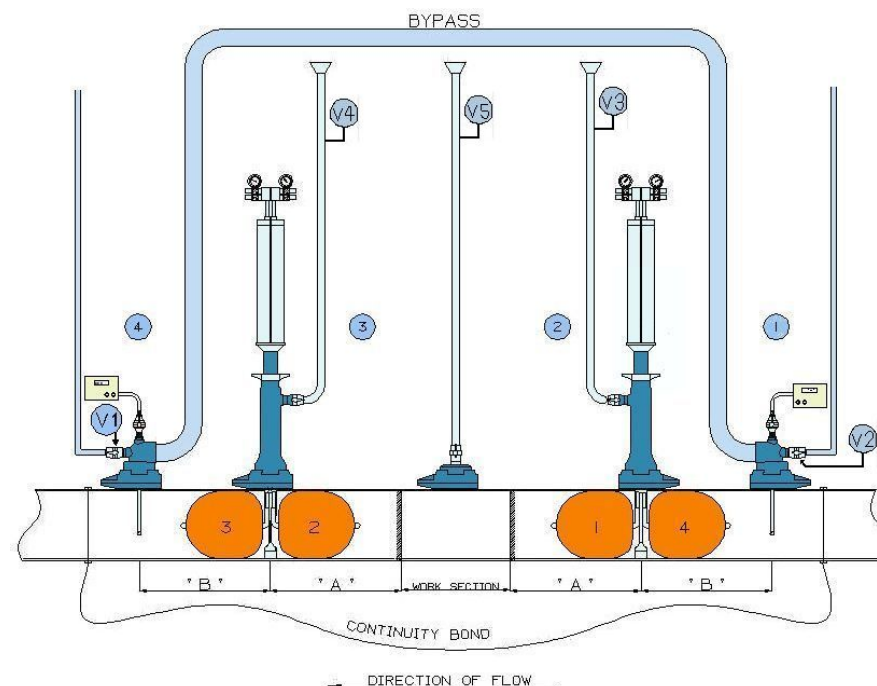

Figure 76– The Bagstop Sequence
12. Insert the upstream Secondary Bag no.1 (refer to Figure 76). The Bag will be facing the cut out section.
15. Insert the downstream Secondary Bag no.2.(refer to Figure 76). The Bag will be facing the cut out section. Inflate to the required pressure (Table 33).
17. With an acceptable seal being established. Insert downstream Primary Bag no.3 (Figure 76) inflating to the required pressure (Table 33). Open the Vent on downstream Bag Head (V4) and check that there is an acceptable seal between Bag no.2 and no.3. If the gas passing is excessive then the Vent must be closed and Primary Bag re-seated.
18. With an acceptable seal being established. Insert upstream Primary Bag no.4(Figure 76) inflating to the required pressure (Table 33).
2. Refer to Figure 76. If either of the Primary Bags is to be replaced, shut off the relevant Vent, to stop full mains pressure being released.
3. Refer to Figure 76. If either of the Secondary Bags are to be replaced it may be necessary to shut off one of the Vents i.e. the relevant Bag Canopy Vent or the Centre Vent. Refer to your Operational Manager.